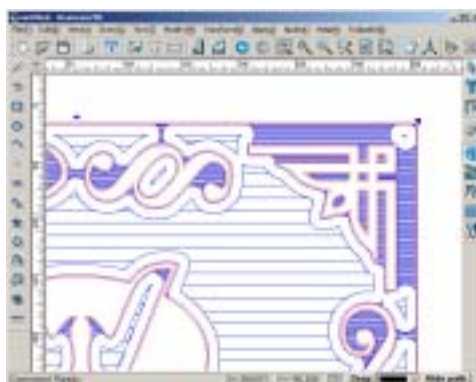

Fig. 12-56
11. Select the outer box, and apply profile machining to it. Select an end mill tool with a diameter of 3.175, height of 22, outside machining, total depth of 10, anticlockwise machining. Click on OK to get the result. (Fig. 12-56)